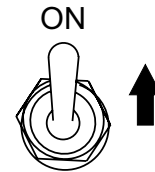

Figure 17. Operation Switch (ON)
4. Place the generator's operation switch (Figure 17) in the **ON** position.